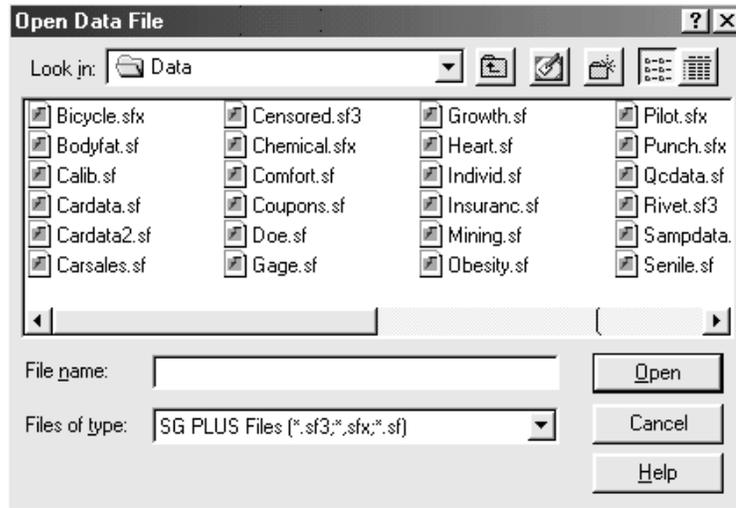

Figure 3-1. Open Data File Dialog Box
1. Choose FILE... OPEN... OPEN [*n*]..., which displays the appropriate Open dialog box (see Figure 3-1).